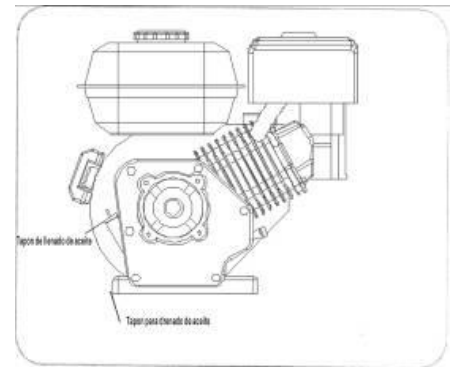

Figure 28
- Unscrew oil fill cap from oil filler tube and wipe dipstick clean. See Figure 28.
1. Locate the oil drain plug, See Figure 28.
3. Clean area around oil drain plug, See Figure 28.